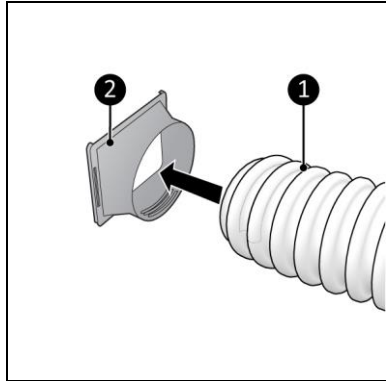

Figure 8
1. Connect the hose connector (Figure 8, pos. 2) to one end of the hot air outlet hose (Figure 8, pos. 1).